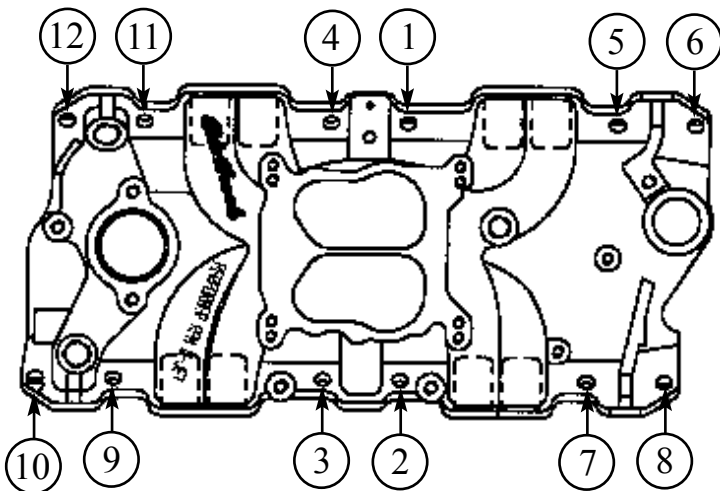

Figure 1—Intake Manifold Tightening Sequence
• **MANIFOLD TORQUE**—Torque all manifold bolts circled in Figure 1 to 25 ft/lbs. See Figure 1 for proper sequence.